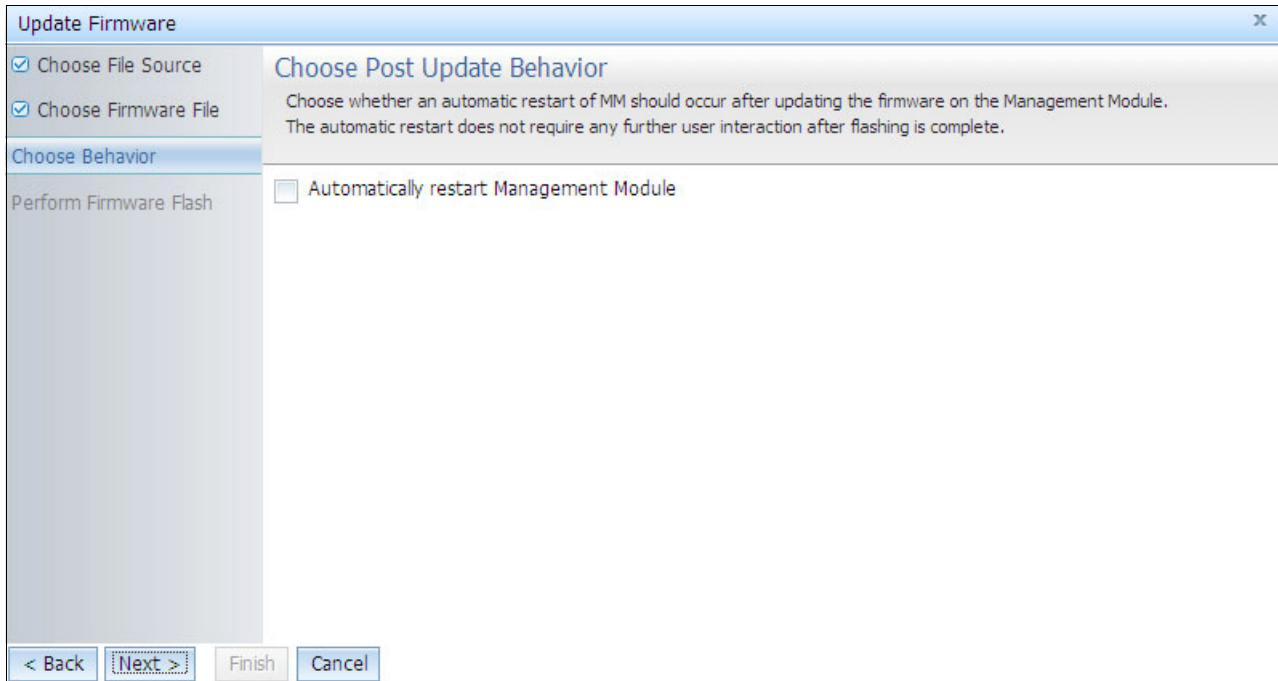

Figure 4-23 Choose Post Update Behavior window
6. Select the behavior that you want after updating the CMM firmware, as shown in Figure 4-23: